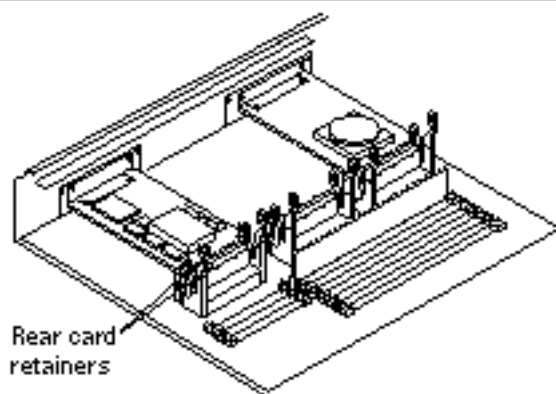

Figure 10-3 SBus Rear Card Connectors
- 8. Push the rear card retainers away from the edge of the SBus card. See Figure 10-3.**